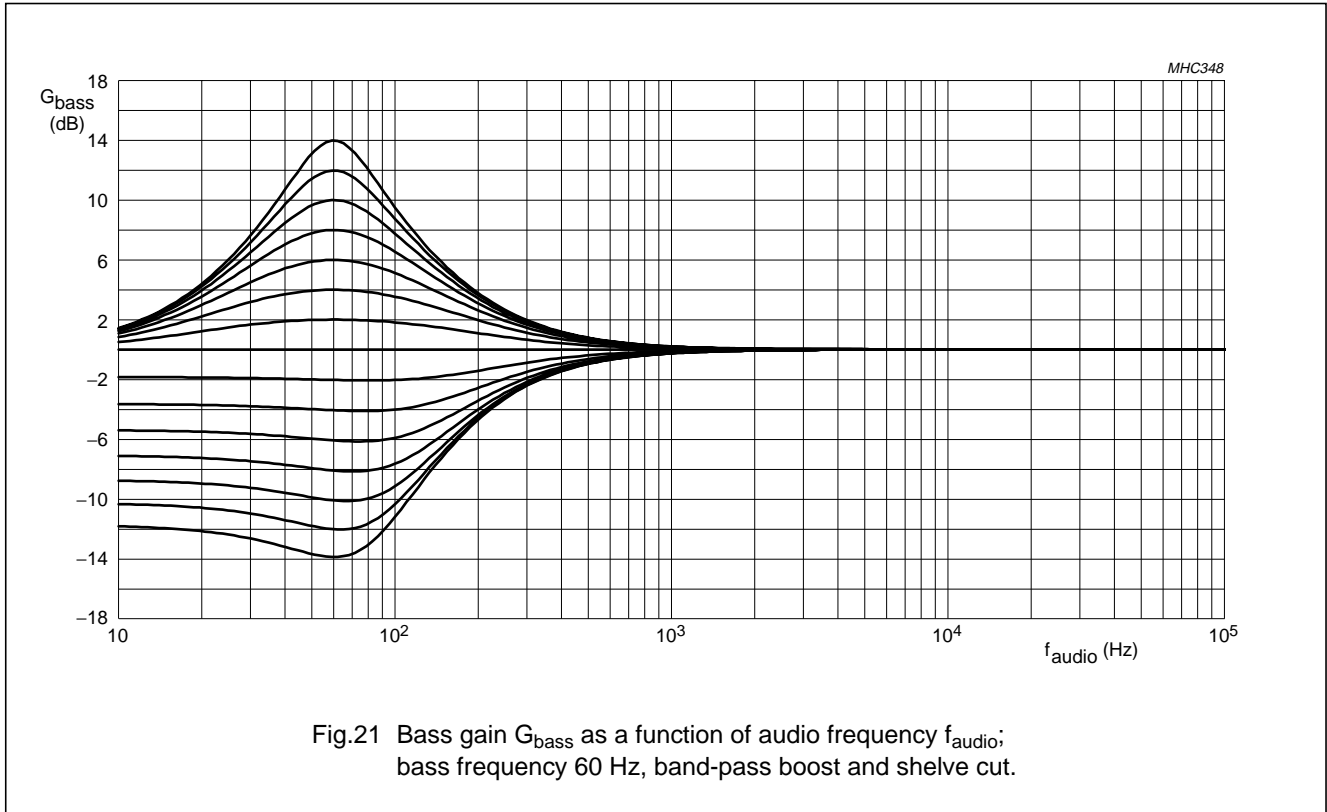

Fig.21 Bass gain  $G_{\text{bass}}$  as a function of audio frequency  $f_{\text{audio}}$ ;
**Table 55** Description of data byte FH, see Figs 21 and 22